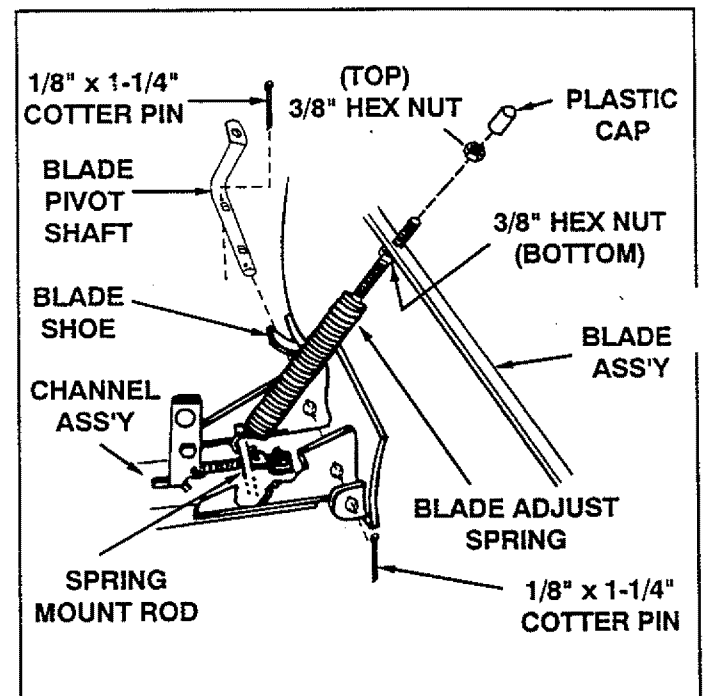

FIGURE 24 (Right Hand Side View)
- Insert a 1/8" x 1-1/4" cotter pin down through hole nearest to bend in blade pivot shaft and spread end. Attach blade assembly to channel assembly by inserting the blade pivot shaft from the left side (bend facing up) through the notched holes in the blade and channel assemblies. Secure with another 1/8" x 1-1/4" cotter pin through the end hole in pivot shaft. Spread end of pin. See figure 24.
- Attach blade adjust spring over spring mount rod as shown in figure 24. Remove plastic cap, and one 3/8" hex nut from bolt assembled in spring. Adjust the remaining 3/8" hex nut down approximately 1" onto the bolt threads. Assemble bolt up through the hole in top edge of blade and hold in place with the 3/8" hex nut removed earlier. Tighten 3/8" hex nut on top edge of blade down against the bottom 3/8" hex nut. Replace plastic cap over end of bolt threads. See figure 24.
The tension of the blade adjust spring is adjustable to permit blade to tilt forward to by-pass solid obstructions. To change spring tension (standing in front of blade assembly), adjust the nuts at upper end of the spring bolt, turning counter clockwise to relieve tension and clockwise to increase tension. See figure 24 on page 12.